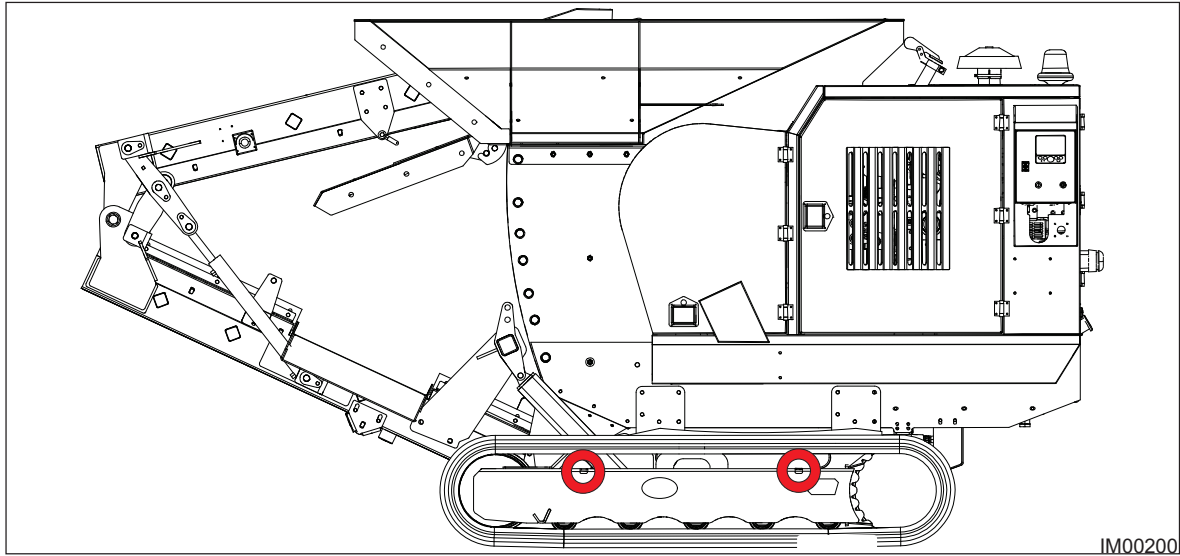

Fig: 10.8 - Tie Down Points
9. Secure the machine to the transporter using the machine Tie Down Points (Fig: 10.8).
The machine is secured at four tie down points. Two on the left and right-hand side of the machine (Fig: 10.8).